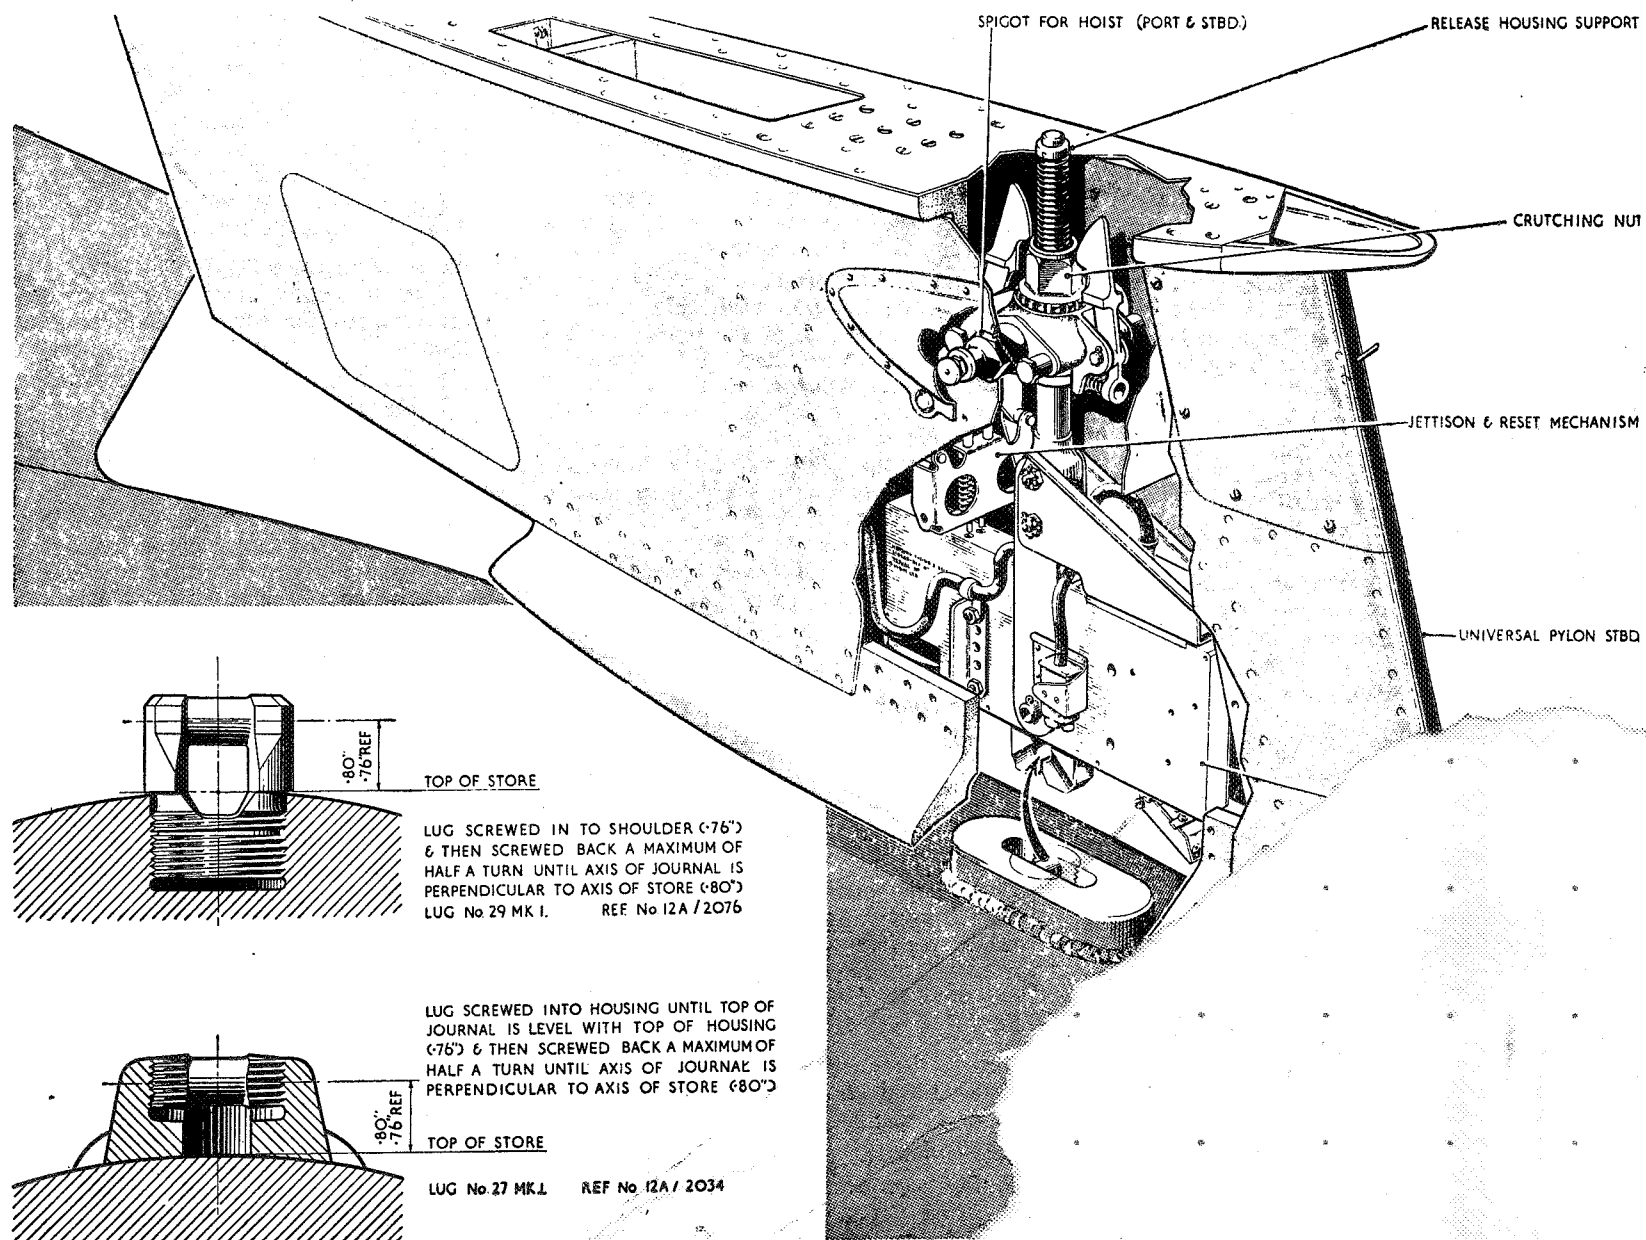

Fig. 3. Bomb att
4. The inboard pylon, which is of light alloy construction, is described and illustrated in Sect. 3, Chap. 2, and a cut-away depicted in Sect. 2, Chap. 2, Fig. 3; shows the release mechanism, together with other items that concern the installation of external stores. The pylons are bolted to the wings and are,
5. Each inboard pylon contains two No. 3, Mk. 1 fuzing units for tail and/or tail and nose fuzing of the stores, and a No. 1, Mk. 1 E.M. release unit, by which the store is attached to the pylon. The release unit is provided with a crutching nut which the store is finally tightened up against the sole plate of the pylon during loading. The release unit is electrically operated for normal release and for jettisoning of stores during flight, but a mechanical jettison and re-set mechanism is provided for operation of the release unit during servicing. The mechanical jettison and re-set mechanism is operated by a pair of press buttons, one of which is fitted flush with the skin on either side of the pylon, the port button being for jettison and the starboard for re-set. The jettison and re-set mechanism is illustrated in Sect. 2, Chap. 2, Fig. 3 and 4. For details of the electrical fuzing and release units, reference should be made to A.P.4343X, Vol. 1, Sect. 5.
- (1) Remove armament safety plug (*para.* 6) and ensure that the usual armament safety precautions are *strictly* observed.
- (2) Position the transporter so that the suspension lug of the store is under the release unit in the pylon.
- (3) Ensure that the suspension lug (No. 27, Mk. 1, Stores Ref. 12A/2034 for bombs, and No. 29, Mk. 1, Stores Ref. 12A/2076 for all other stores) is fitted in accordance with the instructions given in fig. 3. *This is important.*